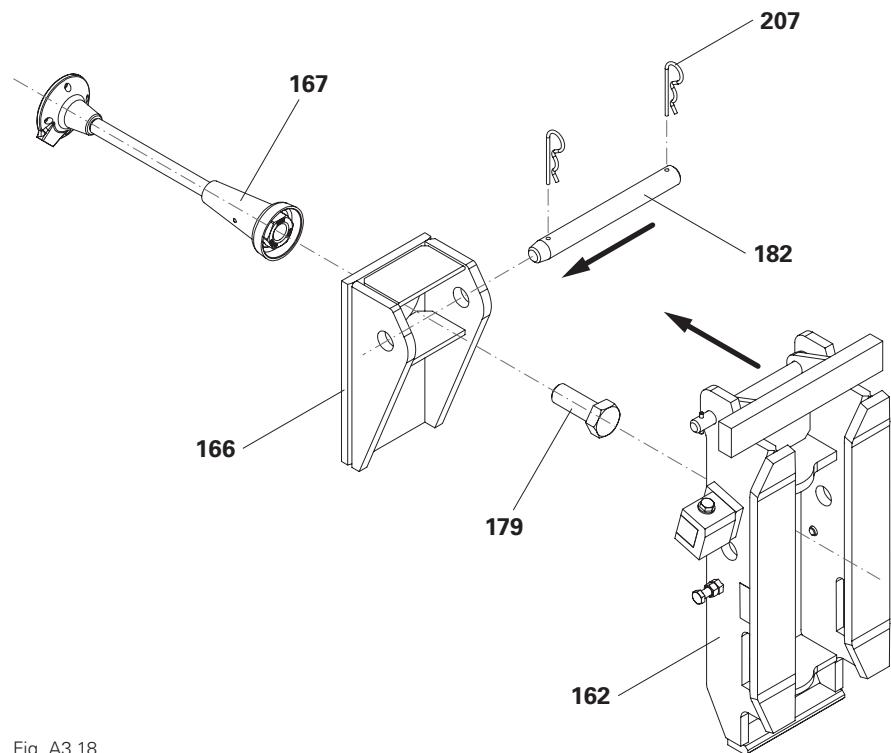

Fig. A3.18
1. Screw the Tie Shoe-H ACS (166) to the Climbing Tie (167) using bolt ISO 4017 M30 x 80-10.9 (179).
2. Slide Climbing Shoe IV ACS (162) onto the Tie Shoe-H ACS (166).
3. Fasten them with bolts \varnothing 30 x 280 (182) and secure with two cotter pins 5/1 (207).
- (Fig. A3.18)